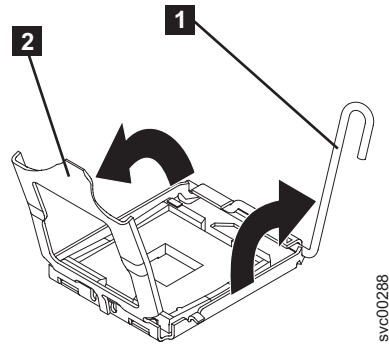

Figure 182. The microprocessor release lever and bracket frame fully opened
4. Open the microprocessor release lever (**1** in Figure 182 on page 197) to the fully open position.
5. Open the microprocessor bracket frame (**2** in Figure 182).